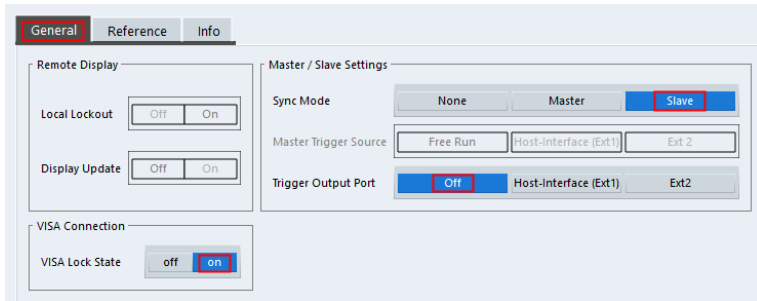
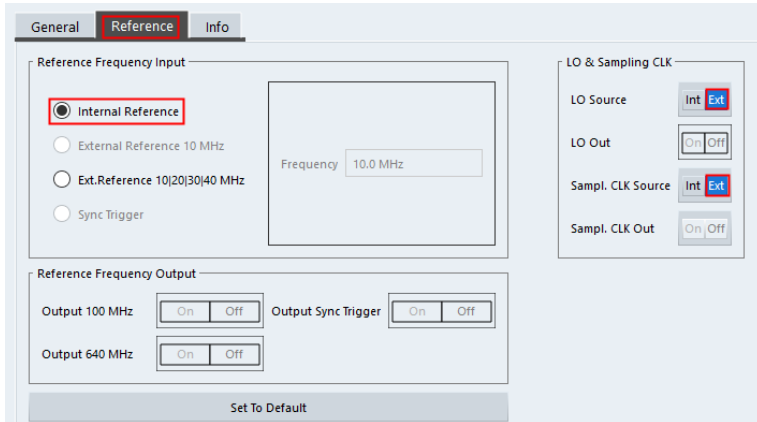

Fig. 4-7 General settings for Slave NRQ6
Fig. 4-8 Reference settings for Slave NRQ6
Configure each slave NRQ6 with the same settings as shown in Fig. 4-7 and Fig. 4-8.
1. In tab "General" (See Fig. 4-7), proceed as following:
- In tab "Reference" (See Fig. 4-8), proceed as following: